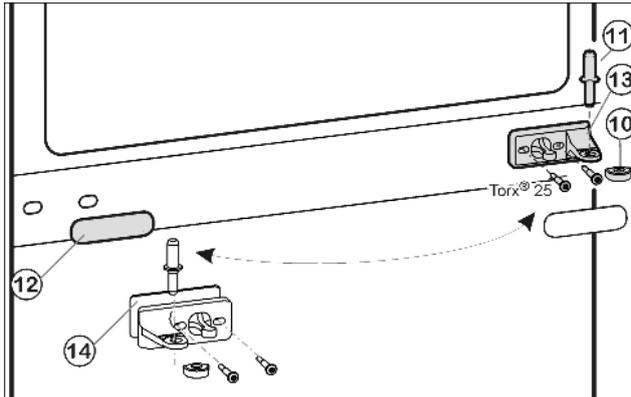

Fig. 9
- ▶ Remove the centre bearing pin Fig. 9 (11) from the bearing bracket and from the lower door.
- ▶ Remove the plastic cap Fig. 9 (10).
- ▶ Unscrew and remove the central bearing bracket Fig. 9 (13) (2x Torx® 25).
- ▶ Carefully remove the cover trim Fig. 9 (12).
- ▶ Firmly screw the central bearing bracket Fig. 9 (13) with the base Fig. 9 (14), rotated 180° on the new hinge side (with 4 Nm).
- ▶ Turn the cover trim Fig. 9 (12) 180° and snap it back into place on the new handle side.
- ▶ Place the plastic cap *Fig. 9 (10)* back onto the centre bearing bracket *Fig. 9 (13)*.
- ▶ Insert the centre bearing pin *Fig. 9 (11)* on the new hinge side through the centre bearing bracket *Fig. 9 (13)* into the lower door.